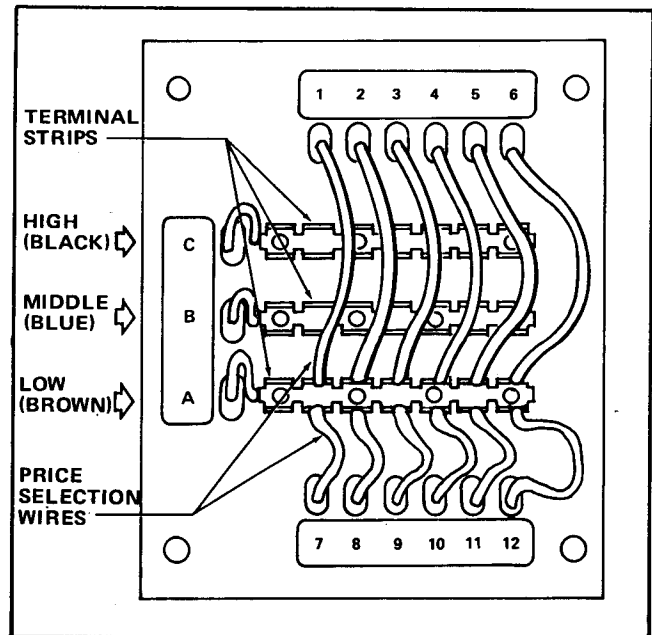

FIGURE 5
1. Connect the BROWN Pricing Wire to the end of the front Terminal Strip, marked "A". See Figure 5.
2. Connect the BLUE Pricing Wire to the end of the middle Terminal Strip, marked "B". See Figure 5.
3. Connect the BLACK Pricing Wire to the end of the rear Terminal Strip, marked "C". See Figure 5.
- 1. Connect the BROWN Pricing Wire to the end of the front Terminal Strip, marked "A". See Figure 5.
- 2. Connect the BLUE Pricing Wire to the end of the middle Terminal Strip, marked "B". See Figure 5.
- 3. Connect the BLACK Pricing Wire to the end of the rear Terminal Strip, marked "C". See Figure 5.